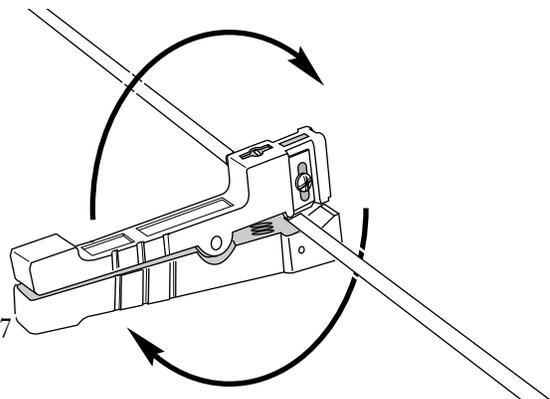

Figure 17
- Use your other hand to rotate the tool around the central tube two to three complete turns to score it (Figure 17). Remove the tool from the central tube.